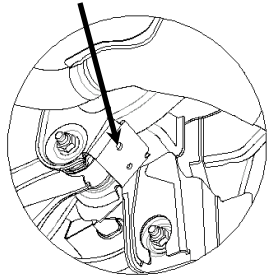

Figure 3
- Remove the existing inner tailpipe hanger 8mm bolt, and replace with supplied 8mm bolt (item 1). Both sides. Tighten bolt to specification. Hang 1/2" flat washers (2 each side) over weld nut on 8mm bolt. Return bolt/s to owner.
- Install forward hitch bracket "A" or "B" as shown. Slide "**handle-nut**" (item 10) behind the vehicle cross-member on the driver's side, using the 1/2-13 X 1.5 bolt (item 8) and attach the forward bracket that's called out for the vehicle. Hand tighten only.
- On Buick LaCrosse and Cadillac XTS enlarge rearward hole on vehicle suspension mount to accept a 1/2 bolt. See Figure 3
- Raise rearward section of the hitch into place, over 8mm bolts (installed in step 1) sandwiching the 1/2" flat washers between exhaust hanger and hitch bracket. Attach the 3/8" conical washers & M8 hex nuts (item 3 & 4) to bolts. Hand tighten only.
- Install the 1/2" carriage bolts (4) into the plate on the hitch's support plate.
- Attach the opposite end of the center section to the forward bracket with the 1/2" bolt & 1/2" conical washer (item 9 & 3) install from the bottom. Attach the 1/2" conical washer and 1/2" hex nut. The center section is designed to pivot, for better installation.